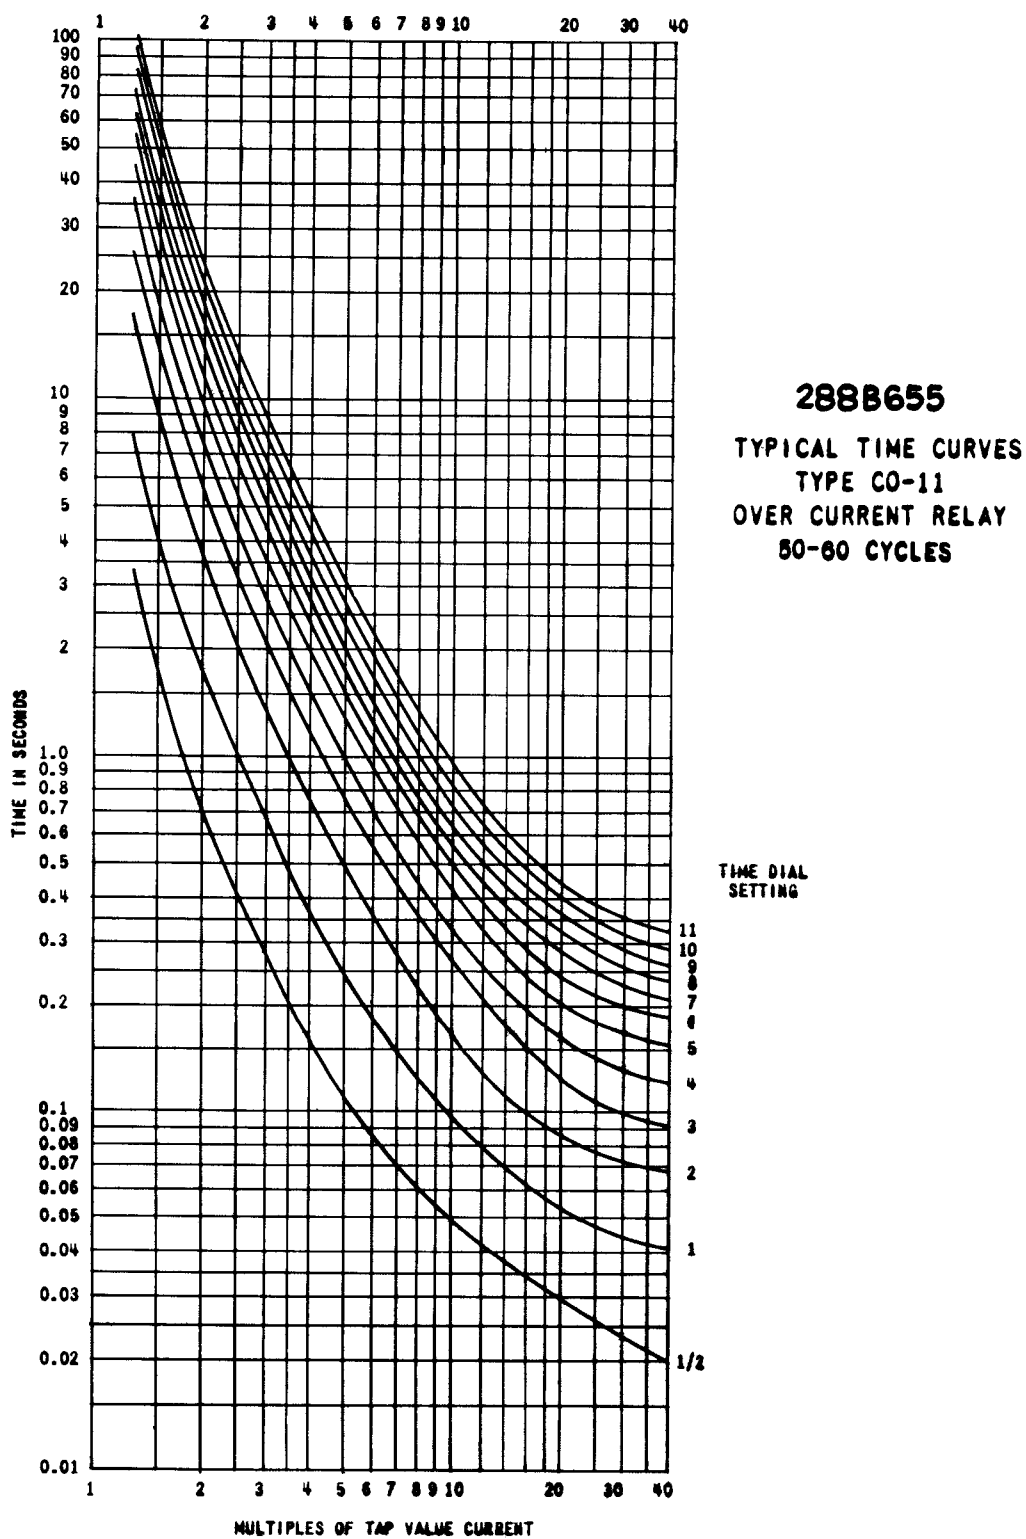

Fig. 13. Typical Time Curves of the Type CO-11 Relay.
3. Time Curve – For type CO-11 relay only, the 1.30 times tap value operating time from the number 6 time dial position is $54.9 \pm 5\%$ seconds and should be checked first. It is important that the 1.30 times tap value current be maintained accurately. The maintaining of this current accurately is necessary because of the steepness of the slope of the time-current characteristic (Figure 13). A 1% variation in the 1.30 times tap value current (including measuring instrument deviation) will change the nominal operating time by approximately 4%.
For type CO-11 relay only, the 1.30 times tap value operating time from the number 6 time dial position is $54.9 \pm 5\%$ seconds. It is important that the 1.30 times tap value current be maintained accurately. The maintaining of this current accurately is necessary because of the steepness of the slope of the time-current characteristic (Figure 13). A 1% variation in the 1.30 times tap value current (including measuring instrument deviation) will change the nominal operating time by approximately 4%. If the operating time at 1.3 times tap value is not within these limits, a minor adjustment of the control spring will give the correct operating time without any undue effect on the minimum pick-up of the relay. This check is to be made after the 2 times tap value adjustment has been completed.